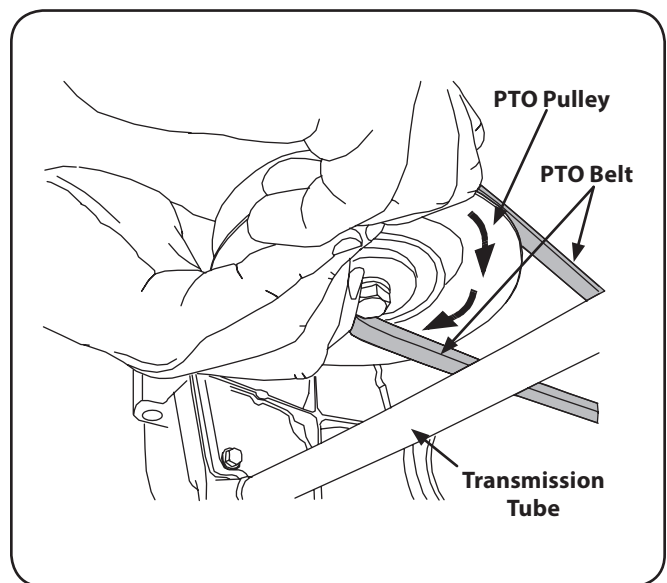

Figure 7-5
- While still holding the belt downward, continue turning the PTO pulley until the belt rolls off the pulley. Refer to Figure 7-5.
11. Pull the right side of the belt rearward and place the narrow V side of the belt into the PTO pulley. See Figure 7-5.
12. While holding the belt and pulley together, rotate the pulley to the left (See Figure 7-5). Continue holding and rotating the pulley and belt until the belt is fully rolled into the PTO pulley.